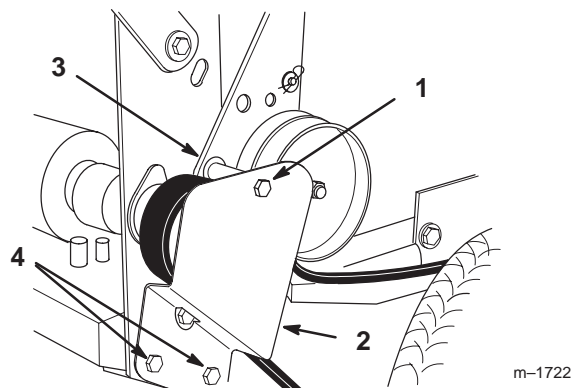

Figure 56
1. Remove top capscrew securing idler support and idler bracket to rear frame (Fig. 56).
2. Loosen bottom two mounting screws enough to allow belt to pass between drive pulley and idler support (Fig. 56).